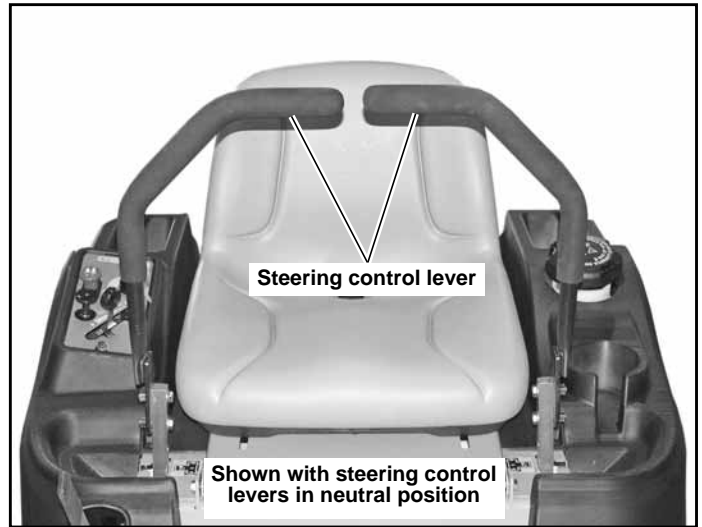

Figure 4-20
2. Position the control lever in the neutral position. Disengage the deck clutch switch. Figure 4-20